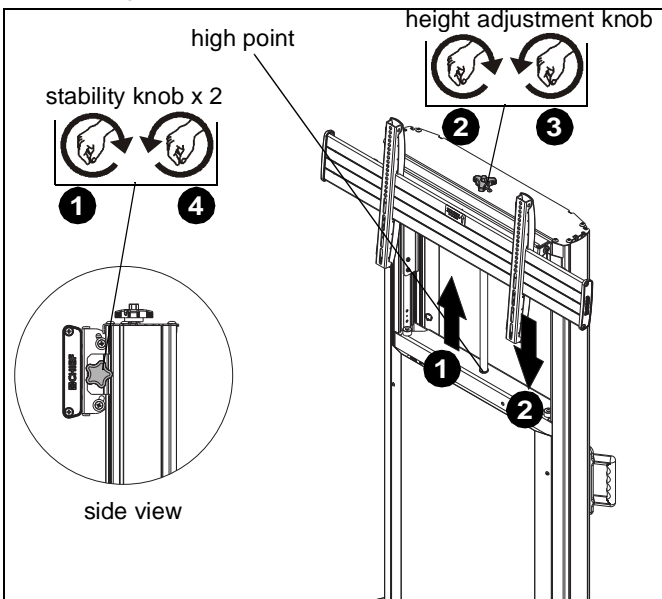

Figure 20
1. Loosen two stability knobs on either side of head assembly. (See Figure 20)
2. Turn height adjustment knob clockwise to raise display. (See Figure 20)
3. Turn height adjustment knob counterclockwise to lower display. (See Figure 20)
4. Tighten two stability knobs on either side of head assembly. (See Figure 20)